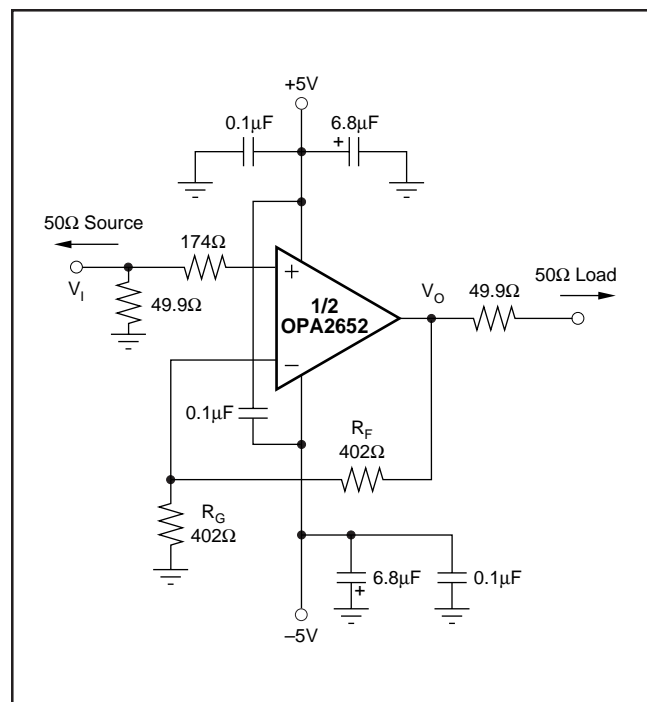
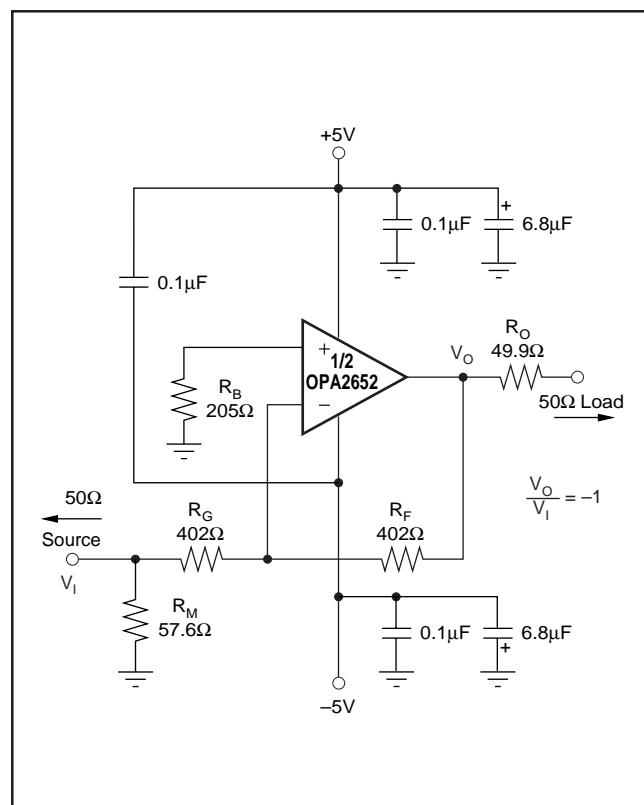

FIGURE 1. DC-Coupled, $G = +2$, Bipolar Supply, Specification and Test Circuit.
FIGURE 2. DC-Coupled, $G = -1$, Bipolar Supply, Specification and Test Circuit.
At $T_A = +25^\circ\text{C}$, $G = +2$, $R_F = 402\Omega$, and $R_L = 100\Omega$, unless otherwise noted. See Figures 1 and 2.
At $T_A = +25^\circ C$, $G = +2$, $R_F = 402\Omega$, and $R_L = 100\Omega$, unless otherwise noted. See Figures 1 and 2.
Figure 1 shows the DC-coupled, gain of +2, dual power supply circuit configuration used as the basis of the $\pm 5\text{V}$ Specifications and Typical Performance Curves. This is for one channel. The other channel is connected similarly. For test purposes, the input impedance is set to 50Ω with a resistor to ground and the output impedance is set to 50Ω with a series output resistor. Voltage swings reported in the specifications are taken directly at the input and output pins, while output powers (dBm) are at the matched 50Ω load. For the circuit of Figure 1, the total effective load will be $100\Omega \parallel 804\Omega$. Two optional components are included in Figure 1.
Figure 2 shows the DC-coupled gain of -1 , bipolar supply circuit configuration which is the basis of the Specifications and Typical Performance Curves at $G = -1$. The input impedance matching resistor (57.6Ω) used for testing gives a 50Ω input load. A resistor (205Ω) connects the non-inverting input to ground. This provides the DC source resistance matching to cancel outputs errors due to input bias current.
A good rule of thumb is to target the parallel combination of R_F and R_G (Figure 1) to be less than approximately 300Ω . The combined impedance $R_F \parallel R_G$ interacts with the inverting input capacitance, placing an additional pole in the feedback network, and thus a zero in the forward response. Assuming a $2pF$ total parasitic on the inverting node, holding $R_F \parallel R_G < 300\Omega$ will keep this pole above $250MHz$. By itself, this constraint implies that the feedback resistor R_F can increase to several $k\Omega$ at high gains. This is acceptable as long as the pole formed by R_F and any parasitic capacitance appearing in parallel is kept out of the frequency range of interest.
Voltage feedback op amps exhibit decreasing closed-loop bandwidth as the signal gain is increased. In theory, this relationship is described by the Gain Bandwidth Product (GBP) shown in the specifications. Ideally, dividing GBP by the non-inverting signal gain (also called the Noise Gain, or NG) will predict the closed-loop bandwidth. In practice, this only holds true when the phase margin approaches 90° , as it does in high gain configurations. At low gains (increased feedback factor), most amplifiers will exhibit a wider bandwidth and lower phase margin. The OPA2652 is compensated to give a flat response in a non-inverting gain of 1 (Figure 1). This results in a typical gain of +1 bandwidth of 700MHz, far exceeding that predicted by dividing the 200MHz GBP by $NG = 1$. Increasing the gain will cause the phase margin to approach 90° and the bandwidth to more closely approach the predicted value of (GBP/NG) . At a gain of +5, the 45MHz bandwidth shown in the Typical Specifications is close to that predicted using this simple formula.
Since the OPA2652 is a general purpose, wideband voltage feedback op amp, all of the familiar op amp application circuits are available to the designer. Inverting operation is one of the more common requirements and offers several performance benefits. Figure 2 shows a typical inverting configuration.
In the inverting configuration, three key design considerations must be noted. The first is that the gain resistor (R_G) becomes part of the signal channel input impedance. If input impedance matching is desired (which is beneficial whenever the signal is coupled through a cable, twisted pair, long PC board trace or other transmission line conductor), R_G may be set equal to the required termination value and R_F adjusted to give the desired gain. This is the simplest approach and results in optimum bandwidth and noise performance. However, at low inverting gains, the resultant feedback resistor value can present a significant load to the amplifier output. For an inverting gain of -1 , setting R_G to 50Ω for input matching eliminates the need for R_M but requires a 50Ω feedback resistor. This has the interesting advantage that the noise gain becomes equal to 2 for a 50Ω source impedance—the same as the non-inverting circuits considered above. However, the amplifier output will now see the 50Ω feedback resistor in parallel with the external load. In general, the feedback resistor should be limited to the 200Ω to $1.5k\Omega$ range. In this case, it is preferable to increase both the R_F and R_G values as shown in Figure 2, and then achieve the input matching impedance with a third resistor (R_M) to ground. The total input impedance becomes the parallel combination of R_G and R_M .
The second major consideration, touched on in the previous paragraph, is that the signal source impedance becomes part of the noise gain equation and influences the bandwidth. For the example in Figure 2, the R_M value combines in parallel with the external 50Ω source impedance, yielding an effective
driving impedance of $50\Omega \parallel 57.6\Omega = 26.8\Omega$. This impedance is added in series with R_G for calculating the noise gain (NG). The resultant NG is 1.94 for Figure 2, (an ideal 0Ω source would cause $NG = 2.00$).
The third important consideration in inverting amplifier design is setting the bias current cancellation resistor on the non-inverting input (R_B). If this resistor is set equal to the total DC resistance looking out of the inverting node, the output DC error, due to the input bias currents, will be reduced to $(\text{Input Offset Current}) \cdot R_F$. If the 50Ω source impedance is DC-coupled in Figure 2, the total resistance to ground on the inverting input will be 429Ω . Combining this in parallel with the feedback resistor gives 208Ω , which is close to the $R_B = 205\Omega$ used in Figure 2. To reduce the additional high frequency noise introduced by this resistor, it is sometimes bypassed with a capacitor. As long as $R_B < 300\Omega$, the capacitor is not required since its total noise contribution will be much less than that of the op amp's input noise voltage.
The OPA2652 provides good distortion performance into a 100 Ω load on $\pm 5V$ supplies. Increasing the load impedance improves distortion directly. Remember that the total load includes the feedback network; in the non-inverting configuration (Figure 1) this is sum of $R_F + R_G$, while in the inverting configuration, it is just R_F . Also, providing an additional supply decoupling capacitor (0.1 μF) between the supply pins (for bipolar operation) improves the 2nd-order distortion slightly (3dB to 6dB).
Evaluating these two equations for the OPA2652 circuit and component values shown in Figure 1 will give a total output spot noise voltage of $17nV/\sqrt{Hz}$ and a total equivalent input spot noise voltage of $8.4nV/\sqrt{Hz}$. This is including the noise added by the bias current cancellation resistor (205 Ω) on the non-inverting input. This total input-referred spot noise voltage is only slightly higher than the $8nV/\sqrt{Hz}$ specification for the op amp voltage noise alone. This will be the case as long as the impedances appearing at each op amp input are limited to the previously recommended maximum value of 300 Ω . Keeping both $(R_F \parallel R_G)$ and the non-inverting input source impedance less than 300 Ω will satisfy both noise and frequency response flatness considerations. Since the resistor-induced noise is relatively negligible, additional capacitive decoupling across the bias current cancellation resistor (R_B) for the inverting op amp configuration of Figure 2 is not required.
The balanced input stage of a wideband voltage feedback op amp allows good output DC accuracy in a wide variety of applications. Although the high speed input stage does require relatively high input bias current (typically 4 μA out of each input terminal), the close matching between them may be used to significantly reduce the output DC error caused by this current. This is done by matching the DC source resistances appearing at the two inputs. This reduces the output DC error due to the input bias currents to the offset current times the feedback resistor. Evaluating the configuration of Figure 1, using worst-case +25°C input offset voltage and current specifications, gives a worst-case output offset voltage equal to:
As an example, compute the maximum T_J using an OPA2652E (SOT23-8 package) in the circuit of Figure 1 operating at the maximum specified ambient temperature of +85°C and with both outputs driving 2.5V_{DC} into a grounded 100Ω load.